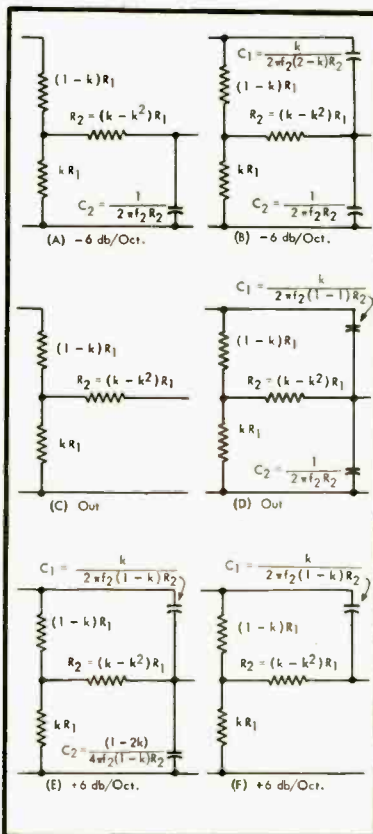

Fig. 4. Circuit configurations and formulas for treble equalizer section.
For example, if a 6-db-per-octave droop is chosen, the treble equalizer reduces to the circuit of (A) in Fig. 4, where R_1 is the total resistance of the unshunted resistive divider. This is merely a circuit with a mid-frequency transmission k and a high-frequency droop corresponding to that of a resistance R_2 working into a capacitive load C_2 .
If a 6-db depressed high-frequency plateau is chosen, the circuit of (B) in Fig. 4 is applicable. In the region of the nominal 3-db frequency, a capacitive voltage divider with approximately 3 db more loss than that of the resistive divider begins to take over.
For a 6-db elevated plateau, the circuit of (E) in Fig. 4 is applicable, in which the capacitive voltage divider has approximately 6 db less insertion loss than that of the resistive divider.